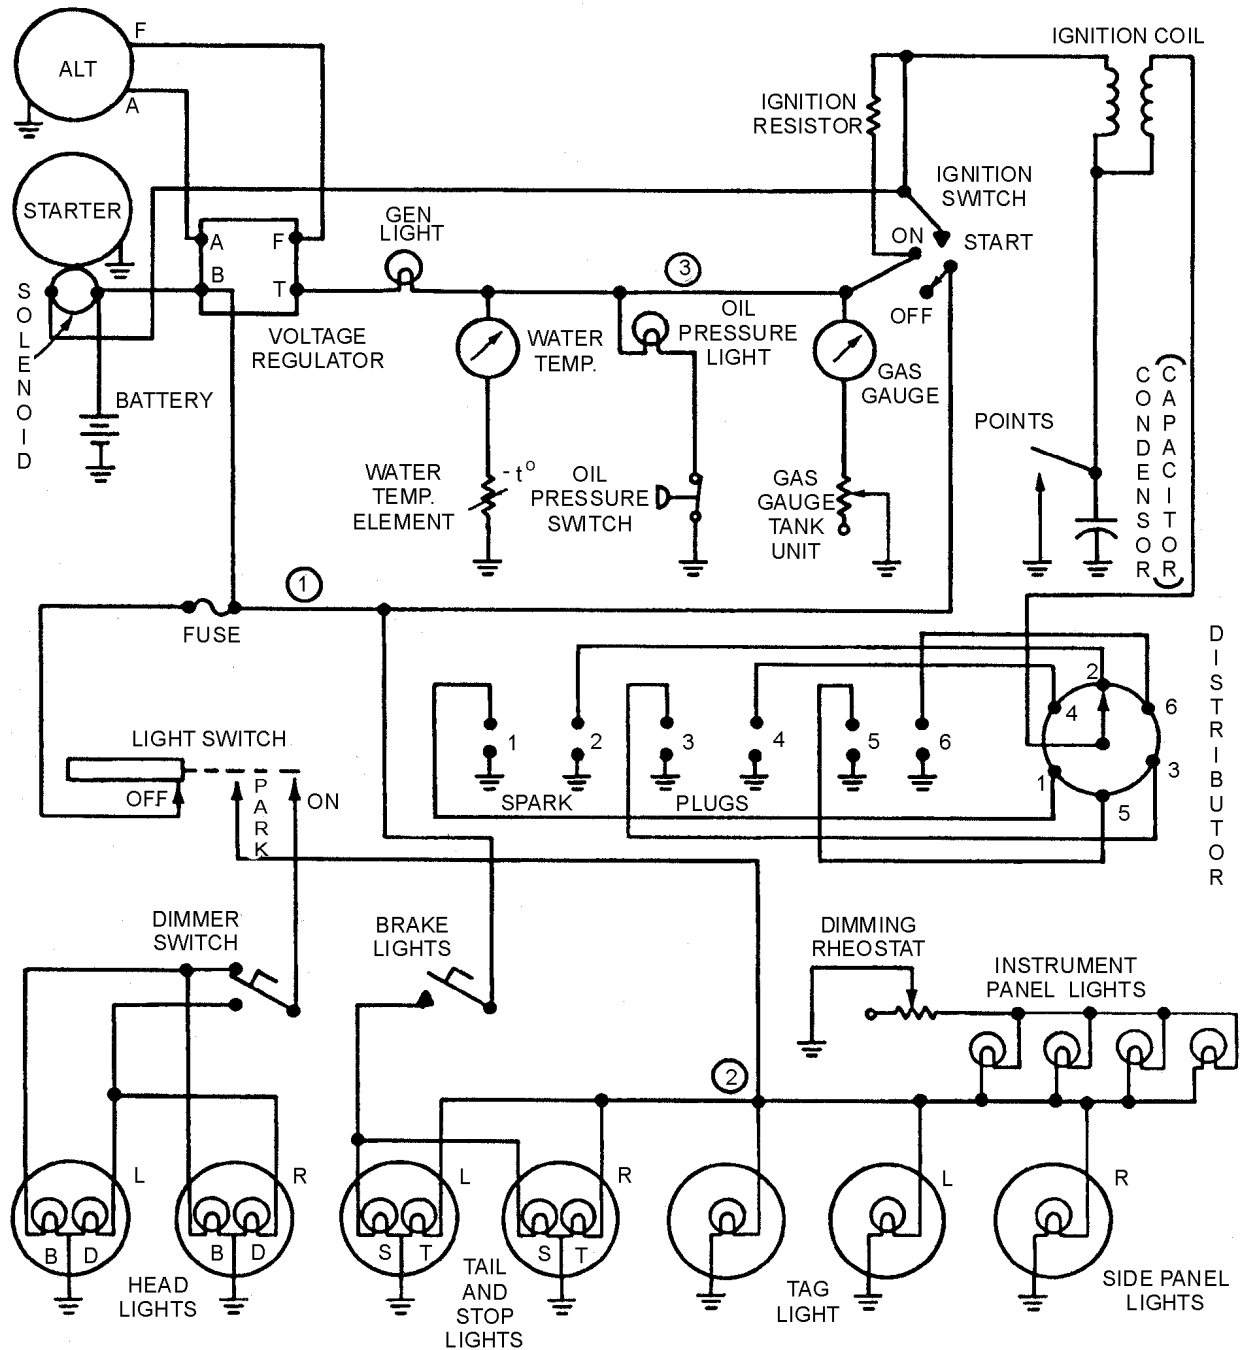

Figure 3-10—Schematic diagram.
Figure 3-10 is a schematic diagram of an automobile electrical system. The automobile electrical system uses the frame of the automobile as a conductor. The frame is called the ground side. Figure 3-10 shows all the electrical components grounded on one side. The negative side of the battery is also grounded. Therefore, the frame is the negative conductor of the system. The opposite side of each of the components is connected through switches to the positive side of the battery. For the purpose of teaching schematic reading, we will discuss only the lighting system and engine instruments.
- Q11. Refer to the schematic diagram in figure 3-10. If the ignition switch is placed in the ON position and all the engine instruments operate properly except the gas gauge, where would the fault probably be?*
- Q12. If the fuse shown on the schematic (figure 3-10) opens, what lights will operate?*
light. Referring to the schematic diagram (figure 3-10), you will recall that when the light switch is placed in the PARK position, +12 volts are applied to point (2). If all the lights come on except the tag light, then the fault must be between point (2) and the tag light ground.